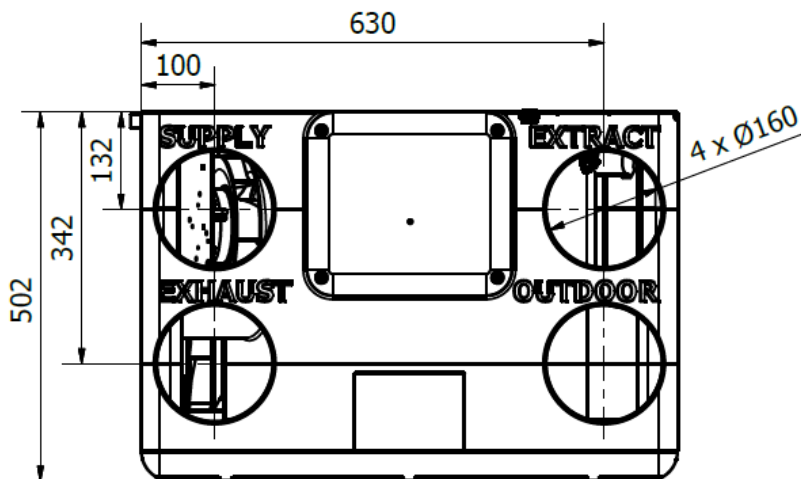

Figure 20 – holes dimensions for wall mounting
1. Usually you will connect your ducting directly to HRU Ø160 connectors (figure 20) Although HRU-PremAIR has very low Sound power level in some cases it is recommended to install additional silencers (on supply and extract sides) to provide high level of acoustic comfort.